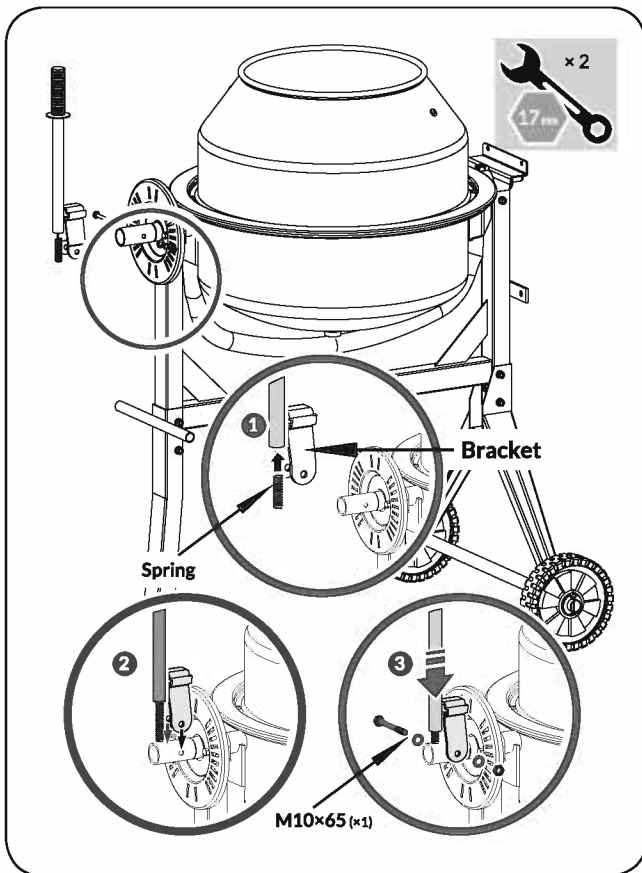

Figure 5b
- Insert the spring into the bar pipe, hold the spring in place with a finger, and place the bar over the larger diameter shaft so the spring stays inside the bar pipe. (See **Figure 5b, Illustration 1**) Press down on bar pipe until the holes in the bracket line up with the hole drilled in the shaft. (See **Figure 5b, Illustration 2**) Insert a M10×65 hex bolt through the hole, place a flat washer on the bolt, and secure with nut. (See **Figure 5b, Illustration 3**) Secure the nut against the bracket, do not overtighten as this will prevent the bracket from pivoting on the bolt.